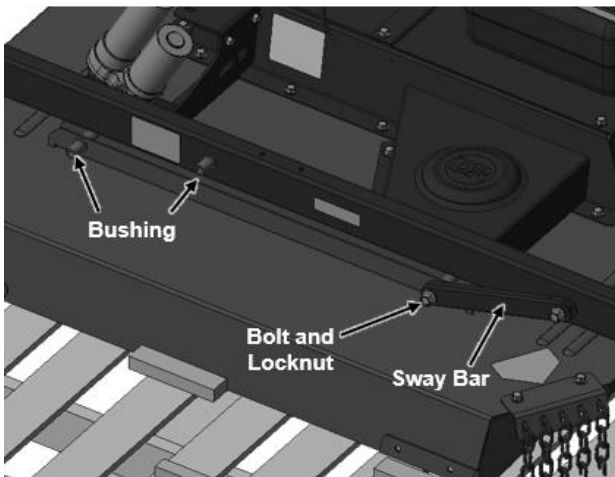

Figure 4
1. Insert all 8 bushings PN: 362891, 4 on each side of machine, going through both frame and deck (**Figure 4**).
2. Assemble all 4 sway bars onto the outside of the machine using 8 bolts PN: 365721 and 8 flanged nuts PN: 333351. (**Figure 4**).
**Note:** Ensure all Sway Bars are assembled on outside of Frame, as shown in (**Figure 4**).